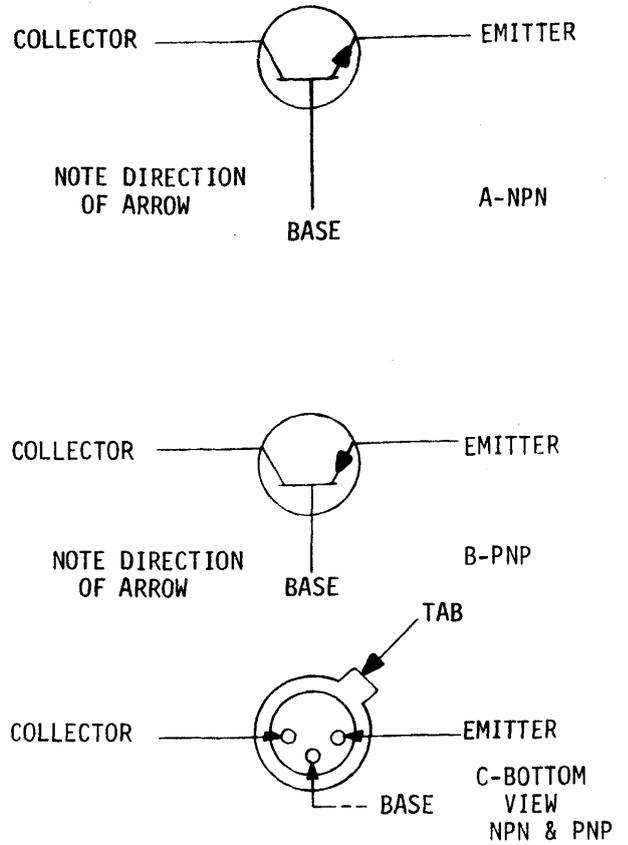

FIGURE 9
5.44 Set the ohmmeter to the Rx1000 scale. Connect the positive probe of the ITE-4442 or the negative probe of the ITE-4442A to the base lead of the transistor taking care not to touch the case of the transistor. Connect the other ohmmeter lead to the collector and emitter leads in turn. Meter should read on low end of the resistance scale. See figure 9 for lead arrangements and the difference in symbols between NPN and PNP transistors.